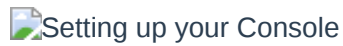

Figure 92: Setting up your Console
8. Then configure the LoRaWAN join mode to **OTAA**. You can check what parameter you will input by typing **AT+NJM?** and then **Enter** into the console terminal. For **OTAA**, you should input **AT+NJM=1** and then press **Enter**, as shown in **Figure 92**.